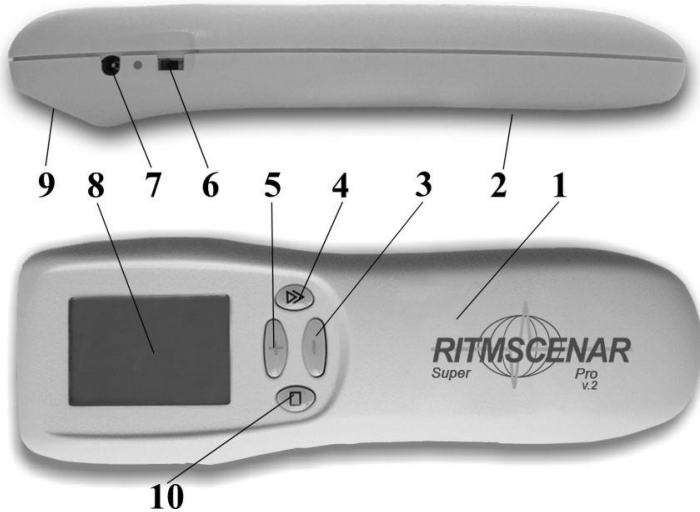

Fig.14
4.1 The device is illustrated in Fig.14. The device has an upper cover 1 with a screen 8, case with a built-in electrode 9 and a battery cover 2. All components except for the batteries are located on the printed circuit board inside the device's case.